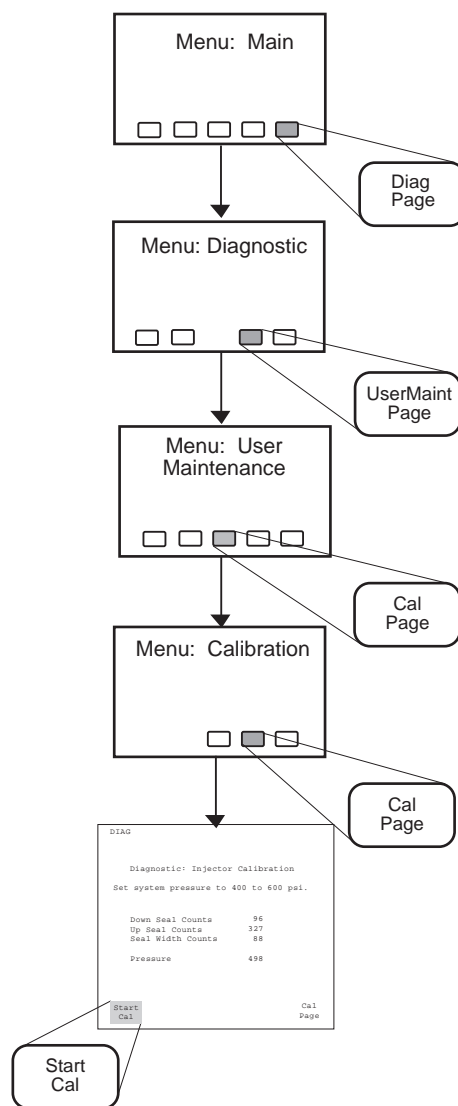

Figure 3-6 Path to Seal Pak Calibration Page
2. To access and run the seal pak calibration, press the keys indicated in the flowchart below (Figure 3-6).